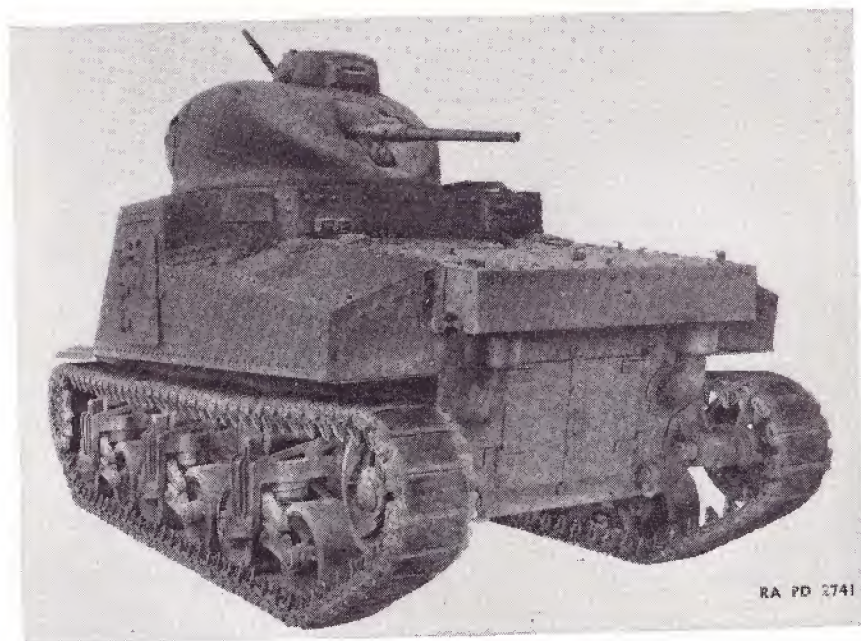

FIGURE 3.—Left rear view of tank.
4. **Description** (figs. 3 to 5, incl.).—*a.* The medium tank is an armored, full-track-laying vehicle, powered by a nine-cylinder, air-